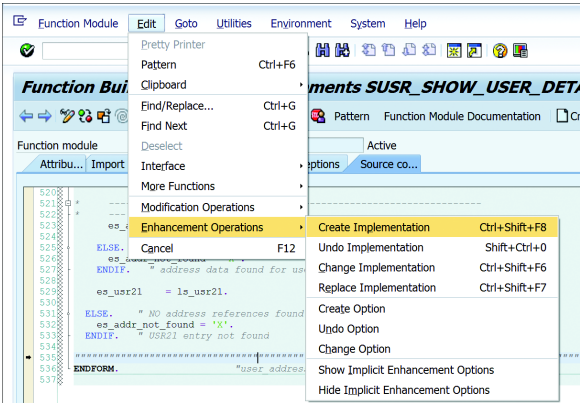

Figure 20.59 Creating Implementation
- Select the implicit enhancement point and follow the menu path `EDIT • ENHANCEMENT OPERATIONS • CREATE IMPLEMENTATION`, as shown in Figure 20.59.